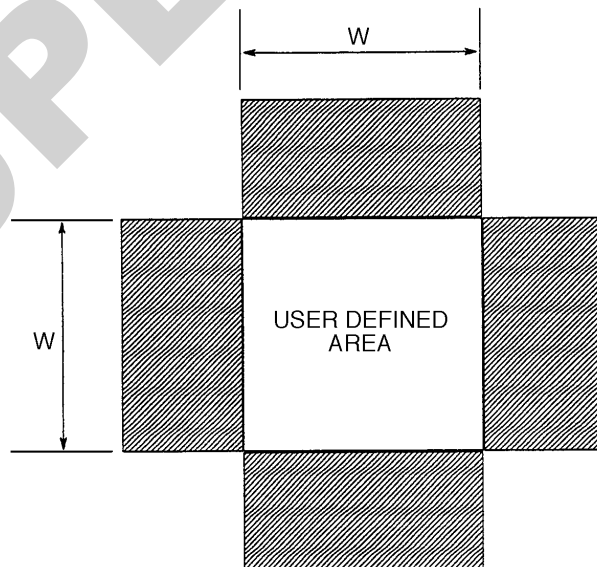

Figure 2
3.2 The area of intersection of the horizontal and vertical lines shall be “user-defined.” The designer, mask maker, or user may define any shape of geometry within this area. The “user-defined” geometry used shall not exceed the width or height of the area of intersection (see Figure 2).